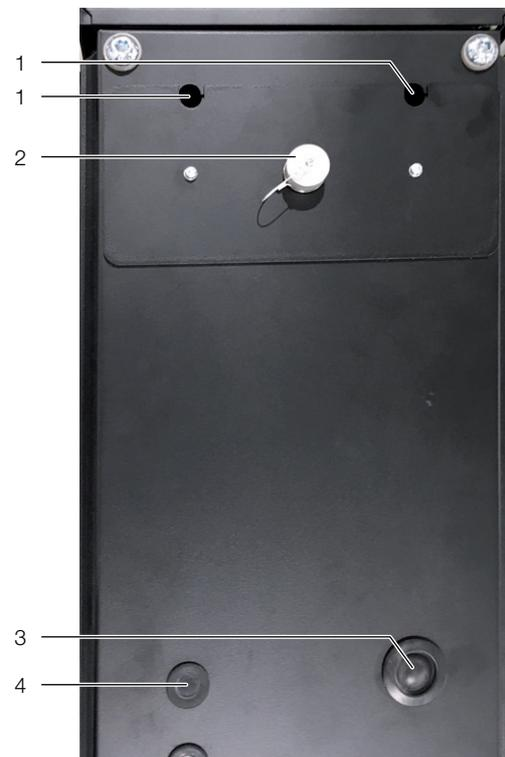

Fig. 23: Roof plate
Inside the device, the cable is routed into the electronics box via the large cable gland in the center (fig. 23, item 1). It is connected to the appropriately labelled terminals (PE, L1, L2, N) in the electronics box.